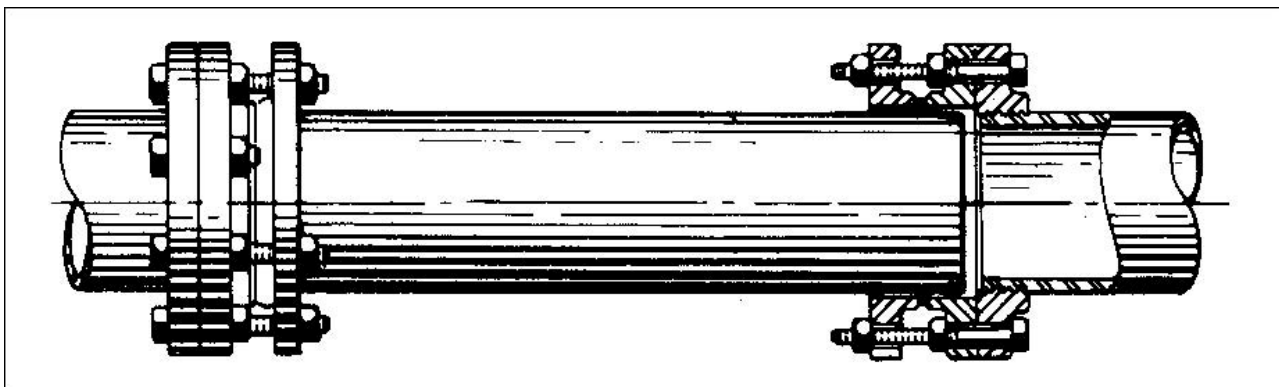

Figure 2 - Flexible Pipe Connections
4. In the suction pipeline include a gate valve near the pump, and employ flexible pipe connections (see Figure2) for ease in making final connections to concrete piers, support pipes or hangers.